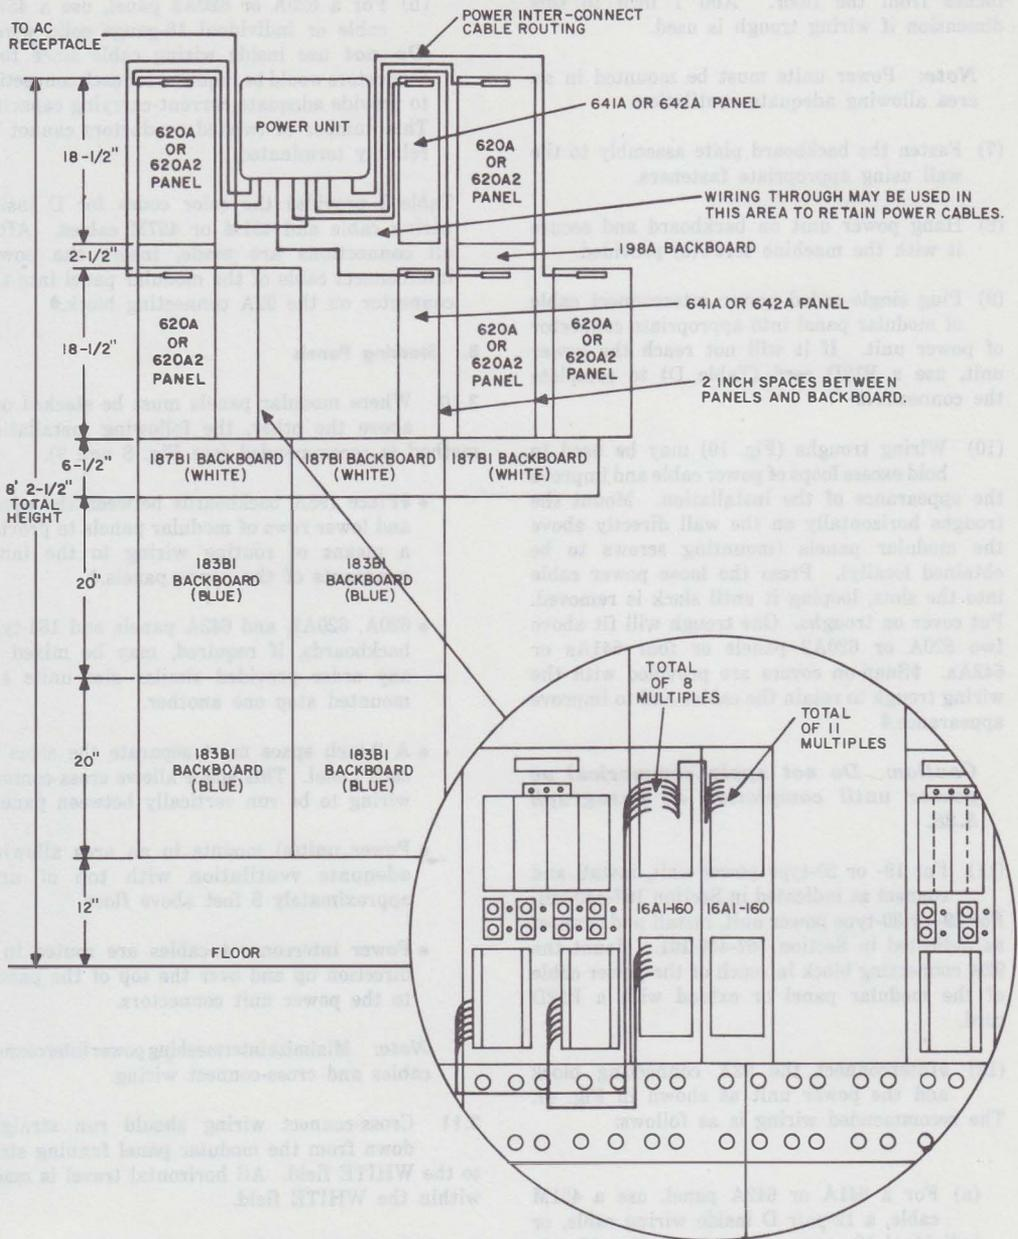

Fig. 8—Stacked Modular Apparatus and Method of Terminal Multiplying Using 16A1-160 Terminal Blocks
3.10 Where modular panels must be stacked one above the other, the following installation method is recommended (see Fig. 8 and 9).